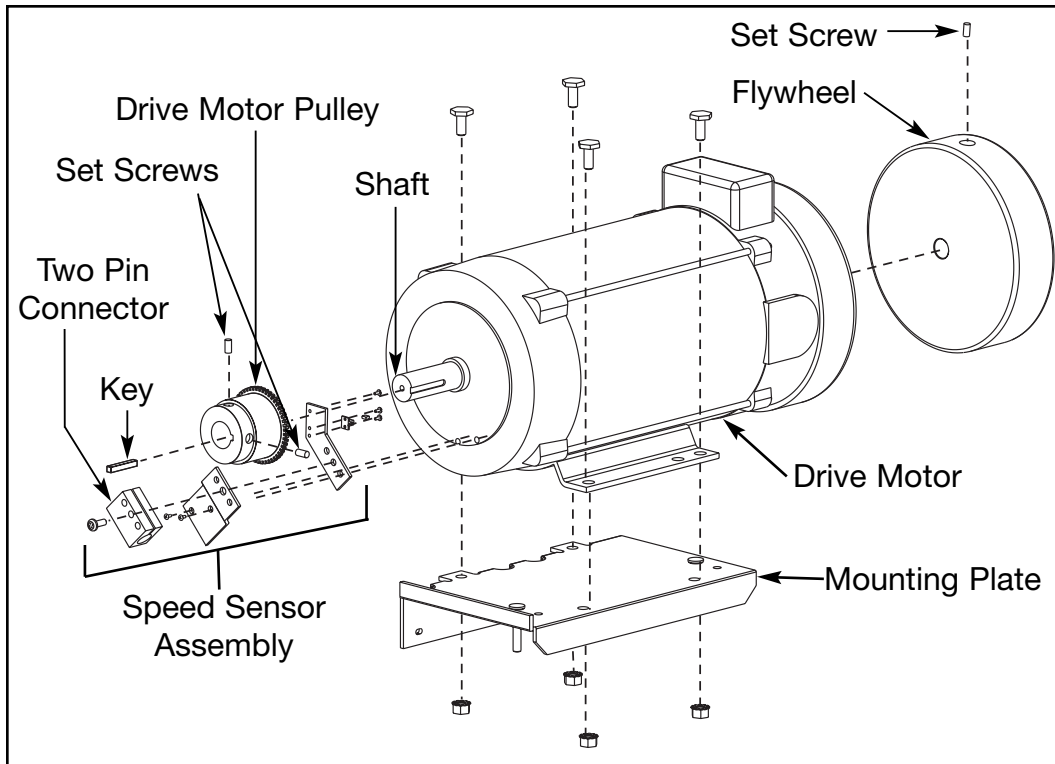

Figure 9
- B. Disconnect the speed sensor cable by unplugging the cable from the two pin connector on the speed sensor. See Figure 9.
- A. Loosen the set screw that holds the flywheel in place. Remove the flywheel and install it on the new motor. See Figure 9. **NOTE:** Flywheels can be difficult to remove. You may need to use a gear puller.
- C.** Remove the two Phillips head screws that hold the speed sensor bracket on to the side of the motor. Transfer the speed sensor assembly to the new motor and install it in the same orientation. See Figure 9. See *Speed Sensor Adjustment* in the Troubleshooting chapter for gap information if necessary.
- B.** Loosen the set screw that holds the flywheel in place and remove the flywheel. See Figure 9. **NOTE:** *Flywheels can be difficult to remove. You may need to use a gear puller.*